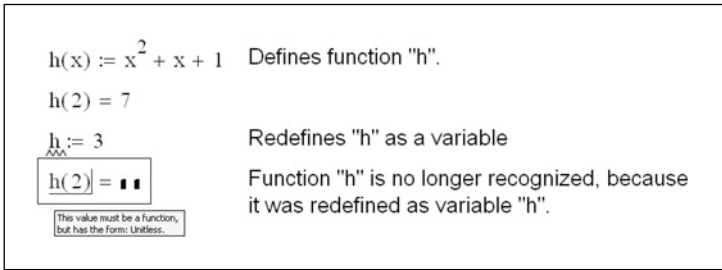

Figure 3.17 Be careful not to overwrite user-defined functions
- Be careful not to redefine a user-defined function. User-defined function names are similar to variables. If you redefine a function, it no longer works. See Figure 3.17.